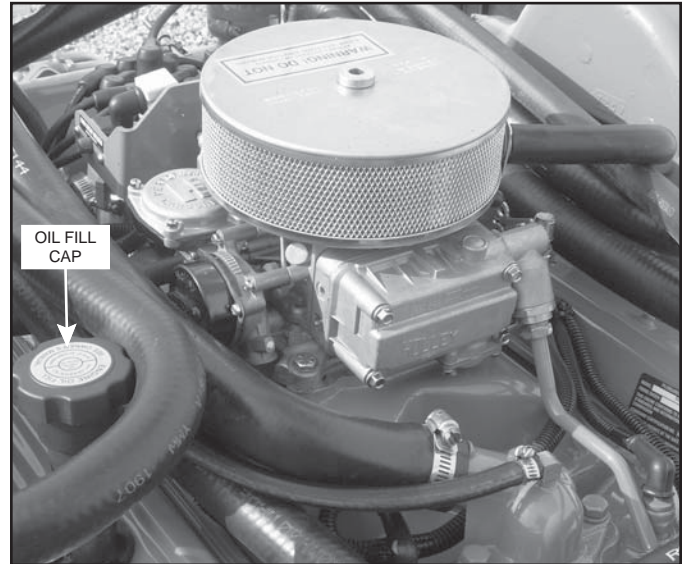

Figure 10-18 Engine Oil Fill (Typical)
4. Fill the engine with the recommended oil, see OIL REQUIREMENTS, through the oil fill location on the valve cover (Figure 10-18).